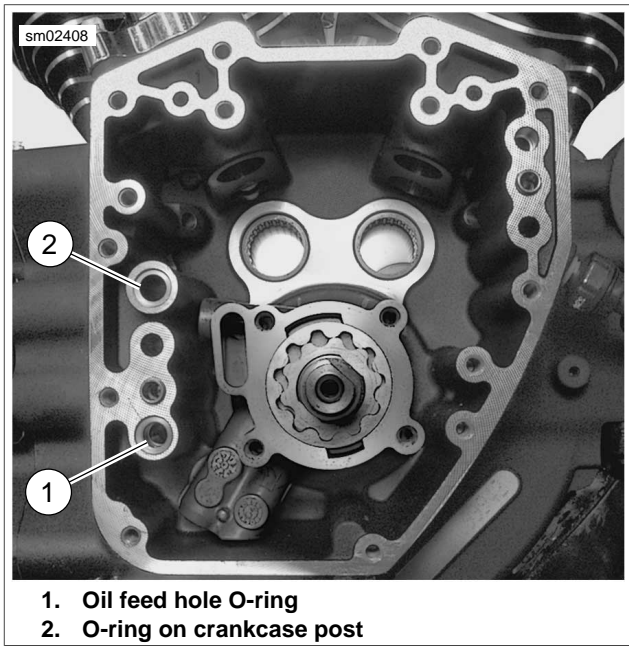

Figure 3-57. Oil Pump O-rings
4. See Figure 3-57. Remove o-ring (1) from groove around oil feed hole in crankcase flange. Discard o-ring.
5. Remove and discard o-ring (2) from crankcase post.
2. See Figure 3-57. Remove o-ring (2) from outboard side of oil pump housing. Remove o-ring from scavenge port stub. Discard o-rings. See 3.26 OIL PUMP for inspection and repair information.